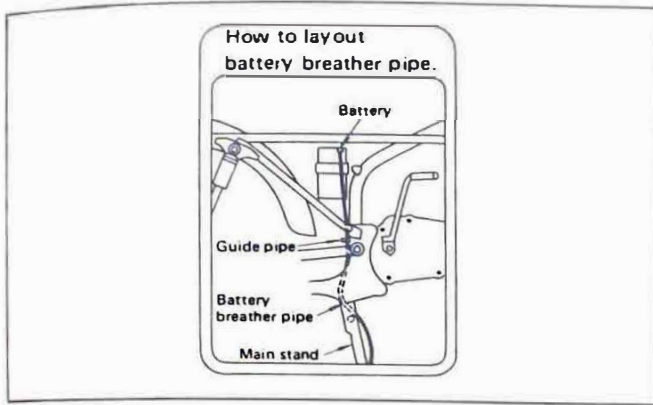

Fig. 45
d. The breather pipe should be connected as illustrated. (Fig. 45)